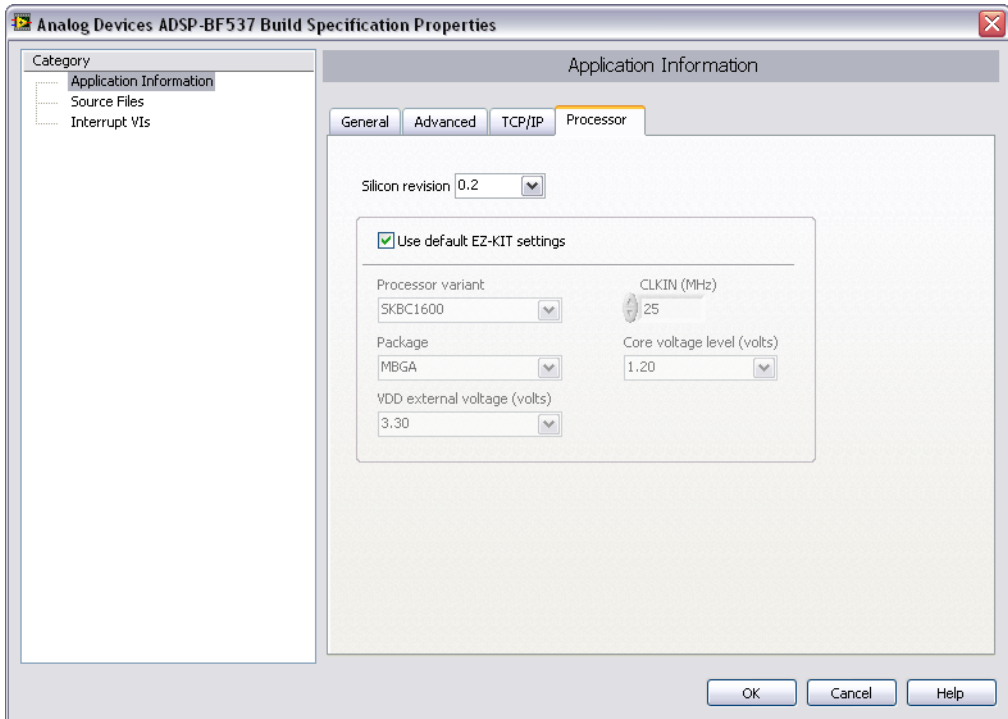

Figure 14. Verifying the Silicon Revision
- Click the **Processor** tab and verify the silicon revision in the **Silicon revision** pull-down menu, shown in Figure 14, matches the silicon revision on the hardware.